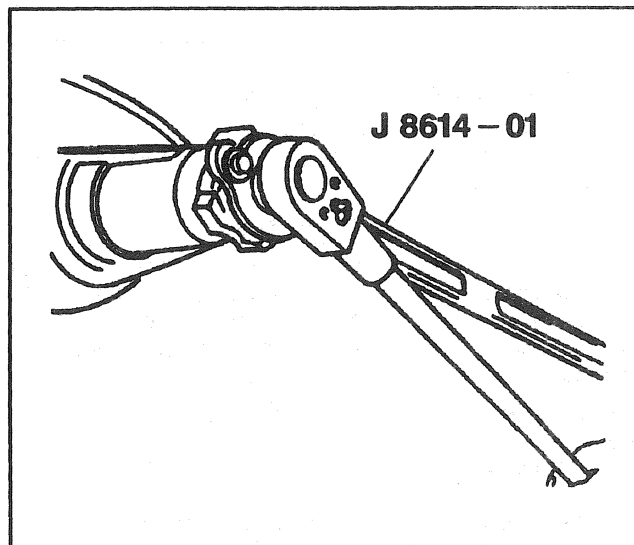

Figure 10—Removing the Drive Pinion Nut
18. Pinion nut and washer using J 8614-01 to hold the pinion (Figure 10).